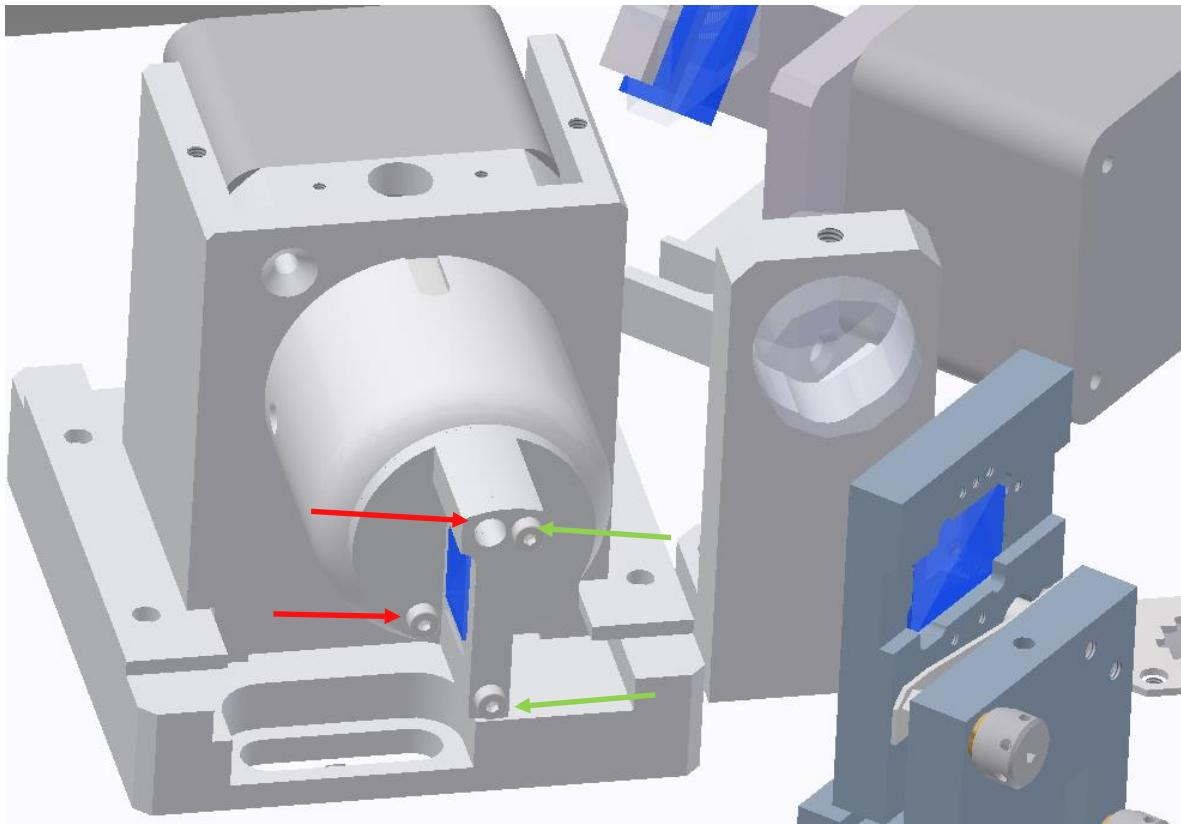

Figure 38 DUV unit with crystal holder screws marked
1. DUV unit crystal removal is the same as for SH/SFG crystals. Only difference is that DUV crystal is not in a module but rather simply as a standalone optical element (Figure 38). To change the crystal, follow these steps:
2. Remove the crystal holder release two fixing screws (Figure 38, red arrows) and carefully take out the crystal holder.
3. Place the holder on a flat clean surface remove top of the holder (Figure 38, green arrows) to access the crystal.